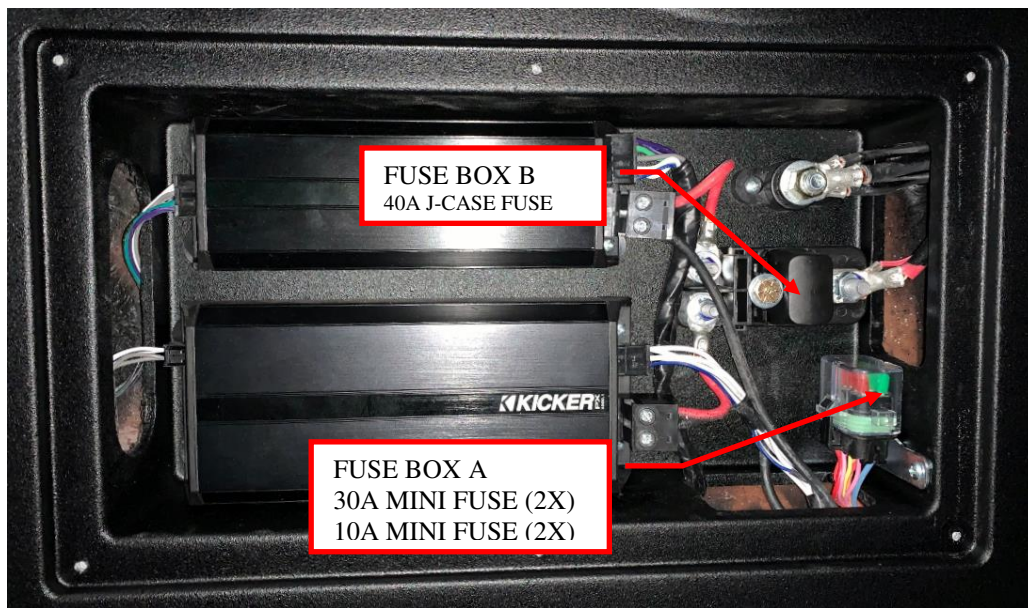

Figure 1: Fuse location.
- Fuse Box B: Each amplifier uses a 40 amp J-Case fuse located under the black plastic cover shown in Figure 1.